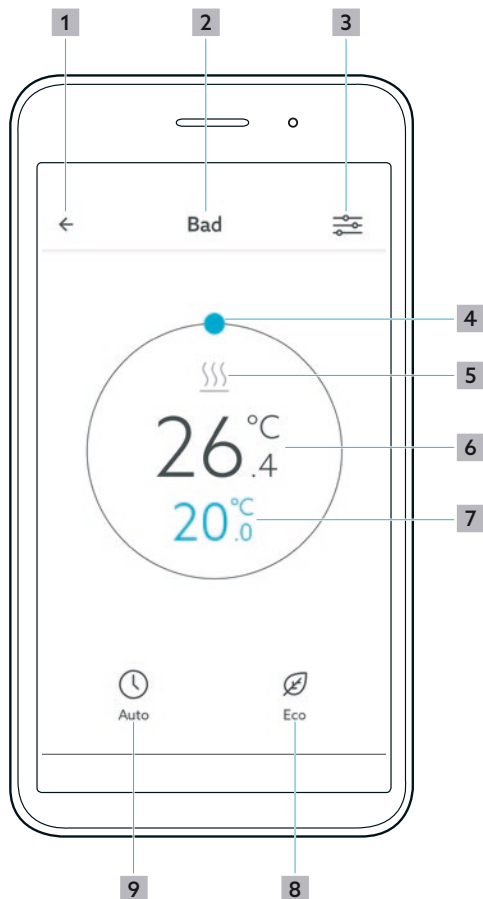

Fig. 14: ClimaCon F app - Room thermostat overview
- 1 Tap the key "Call-up of the Settings menu" on the overview screen of the room thermostat for which you want to make the settings (position 3 in Fig. 14 on page 17).